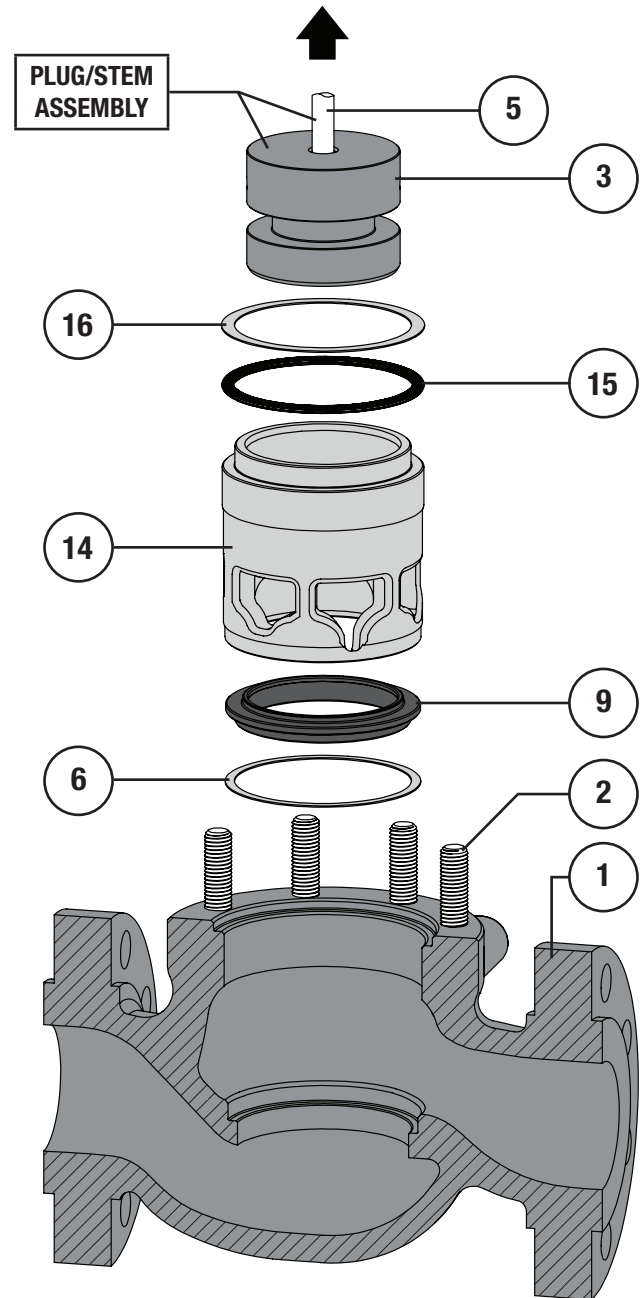

Figure 10 Standard Trim Parts Removal (Steps 1 - 6)
- 1** Remove the metal shim (Key 16) and spiral wound gasket (Key 15) if they haven't already been removed. Refer to Figure 10.
- 2** Remove the valve stem (Key 5) / valve plug (Key 3) assembly from the valve body (Key 1), refer to Figure 10. Refer to Plug Seal Removal section for disassembly instructions.